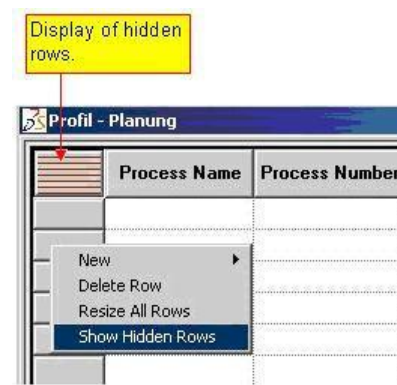

Figure 108: Showing Hidden Rows Again
9) Hidden rows can be shown again with the help of **Show Hidden Rows**. Please refer to the Figure 108.